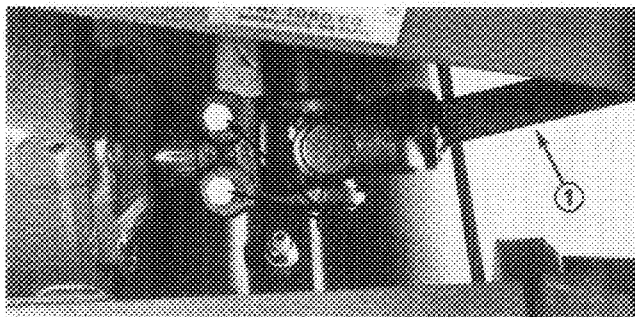

Figure 4
2. Stop engine, slide cutting unit under frame, slide male PTO shaft into female PTO shaft. Align gearcase input shaft with PTO shaft and slide together. Secure with roll pin (Fig. 4).
Note: On Groundsmaster 220-D (Diesel) or GM 224 also tighten bolts and locknuts (Fig. 4).